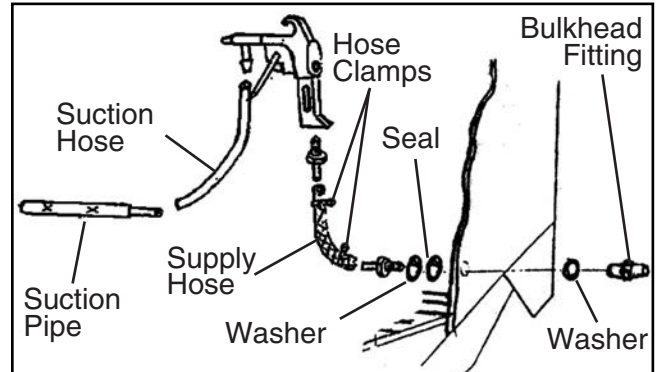

Figure 3. Blast gun assembly.
3. Install the bulkhead fitting with gasket. Attach the air supply hose and suction hose to the bulkhead fittings and suction pipe with hose clamps (see **Figure 3**).